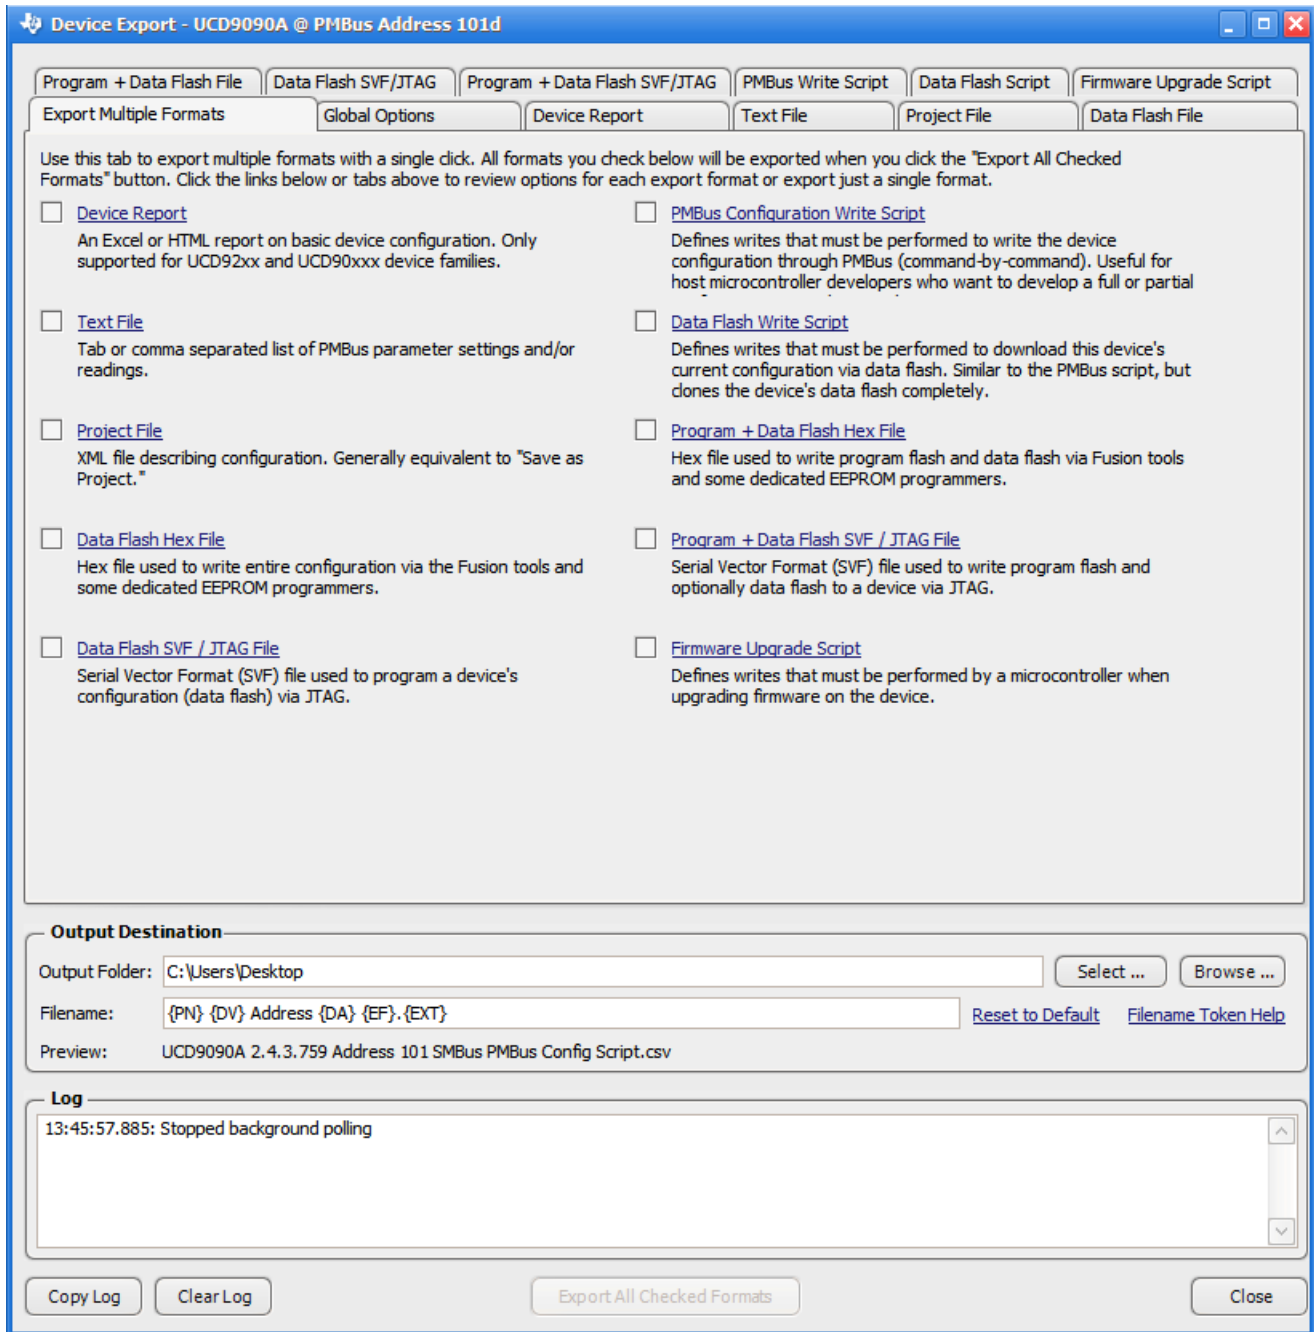

Figure 34. Fusion GUI Device Configuration Export Tool
- Another in-circuit programming option is for the *Fusion GUI* to create a data flash image from the configuration file (Figure 34). The configuration files can be exported in Intel Hex, data flash script, Serial Vector Format (SVF) and S-record. The image file can be downloaded into the device using I²C or JTAG. The *Fusion GUI* tools can be used on-board if the *Fusion GUI* can gain ownership of the target board I²C bus. It is recommended to use Intel Hex file or data flash script file for production programming because the GPIOs are under controlled states.